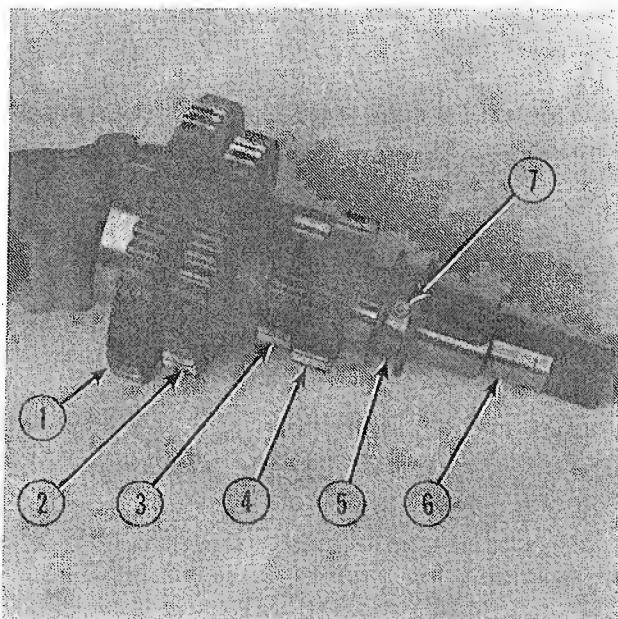
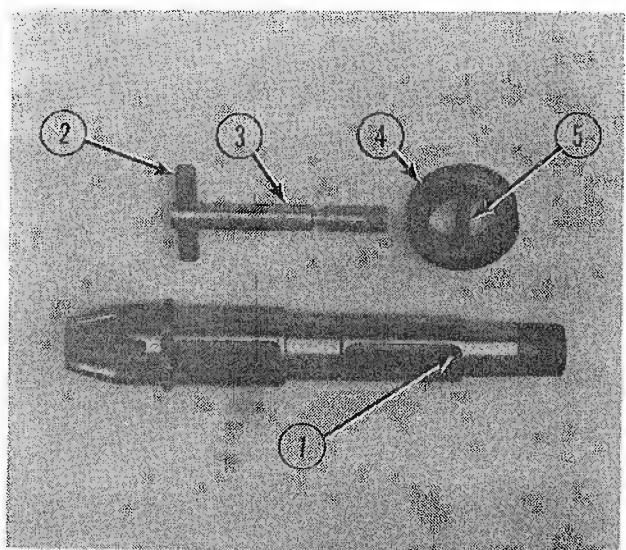

FIG. 5
FIG. 6
Figure 5 illustrates the major parts of this sub-assembly.
(1, Fig. 5) Low range gear.
(2, Fig. 5) Medium range gear.
(3, Fig. 5) High range gear.
(4, Fig. 5) PTO idler gear.
(5, Fig. 5) Range shifting collar.
(6, Fig. 5) Front pinion shaft.
General. The desired range is selected by sliding the shifting collar (5, Fig. 5) fore or aft along the pinion shaft. The shifting collar (4, Fig. 6) is pinned to the aft end of the range actuator rod (3, Fig. 6) located in the center of the pinion shaft. The range drive key (2, Fig. 6) is then aligned with the appropriate range drive gear selected by the operator.
Figure 6 illustrates the major parts of the range shifting mechanism.
(2, Fig. 6) Range drive key.
(3, Fig. 6) Range actuator rod.
(4, Fig. 6) Shifting collar.
(5, Fig. 6) Stepped pin.